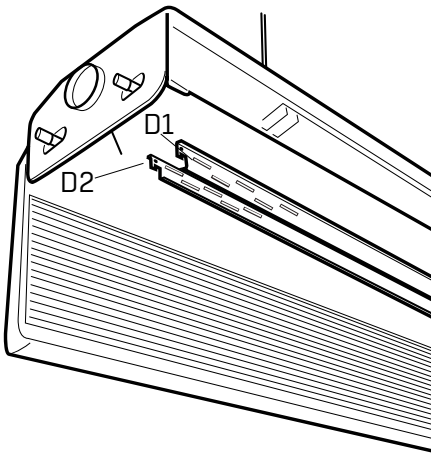

FIGURE 17
- 2) If the air pressure needs to be adjusted, determine which nozzles need to be adjusted. (See FIGURE 17)